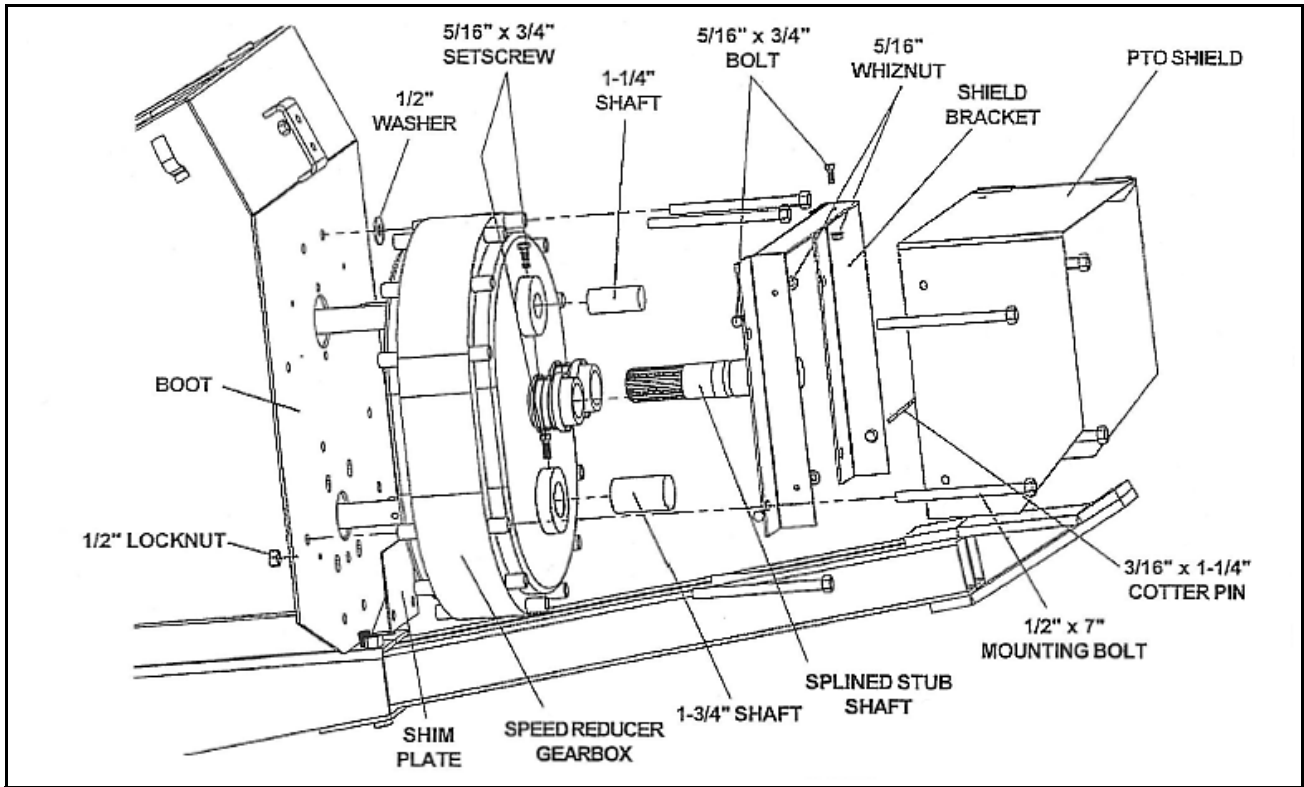

Figure 3
See Figure 3, 4, and 5.
1. Face the flat side of the speed reducer gearbox to the front plate of boot. Slide the speed reducer gearbox onto flight shaft and gearbox shaft until the flat surface of the gearbox touches the front plate of boot. Make sure that the keys are in the right place between shafts and gearbox, and the mounting holes in the gearbox are lined up with the holes in the boot (Figure 3).